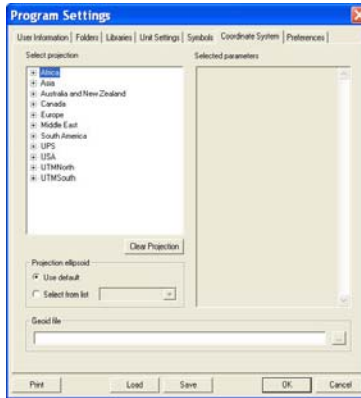

Figure 8-16. Program Settings – Coordinate System Tab
1. Specify the coordinate system from the list of provided systems in the **Select projection** window (Figure 8-16 on page 8-19).